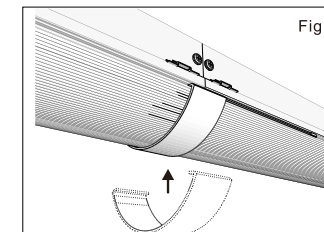

Fig.5
8. Install the diffuser connector. (Fig 5)